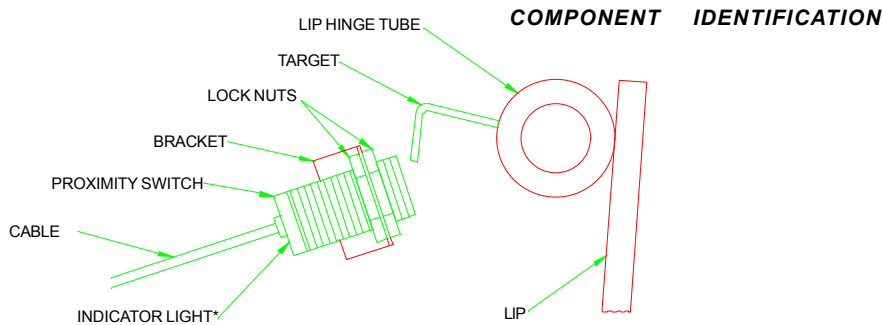

Figure 13
Your dockleveler may be equipped with Auto Return to Dock. Auto Return to Dock is an option available on Challenger series dock levelers that will automatically reposition the dockleveler into the stored, cross traffic position after the truck departs. This option utilizes a switch under the dock leveler and a target fastened to the lip. See Figure 13.
* Figure 13 shows the indicator light at the back end of the housing. Some switches have the light in the side of the housing.